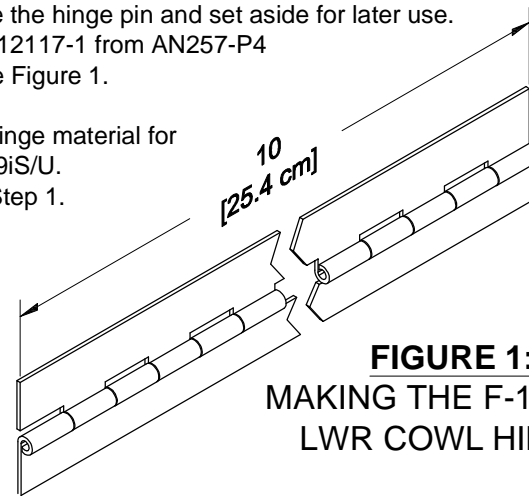

FIGURE 1:
Step 1: Remove the hinge pin and set aside for later use. Fabricate two F-12117-1 from AN257-P4 piano hinge. See Figure 1.